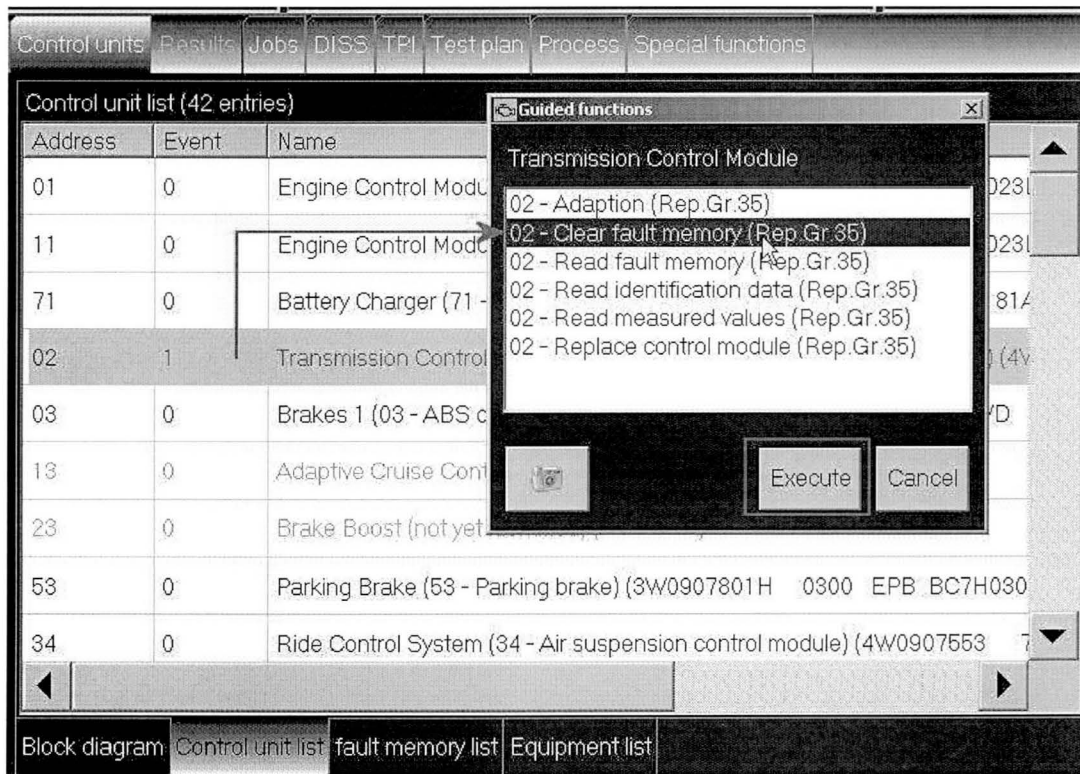

Figure 9
19. NOTE 2: It is possible that an engine or transmission fault code may require guided fault finding to be used directly in that specific control module to clear the fault code (see Figure 9)